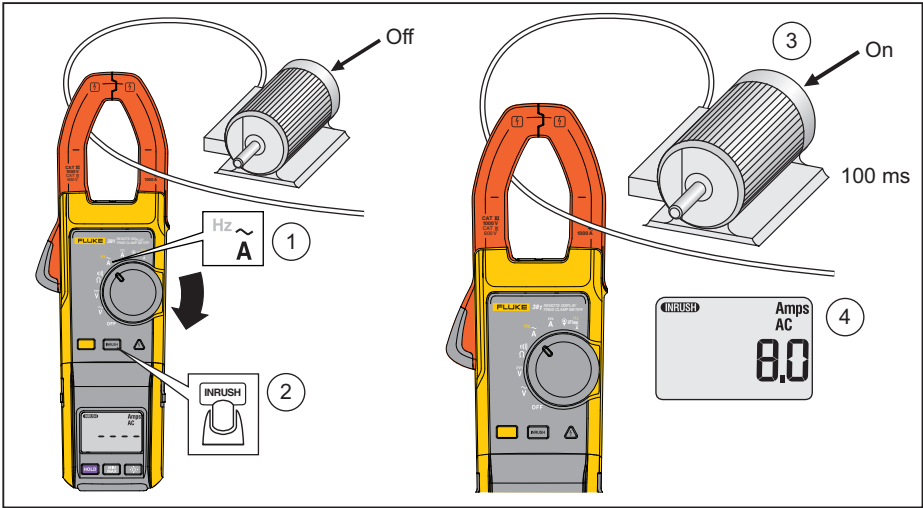

Figure 7. Inrush Current Measurement
4. Turn on the device under test. The inrush current (spike) is displayed on the Meter display. See Figure 7.